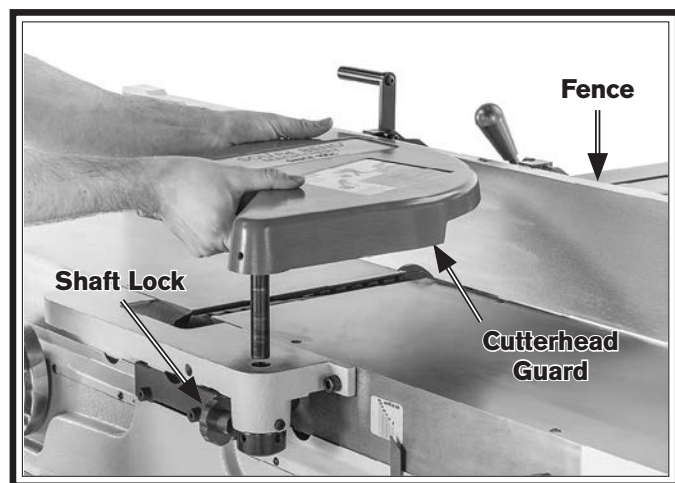

Figure 15. Installing cutterhead guard.
12. Loosen shaft lock and insert guard shaft into mounting hole, positioned so guard rests against fence (see **Figure 15**).